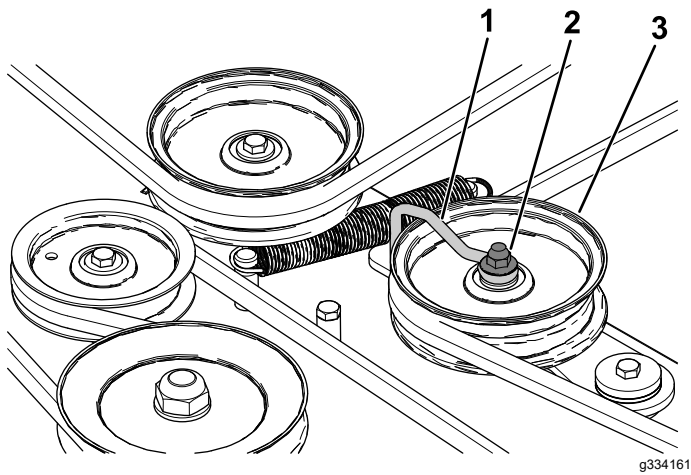

Figure 53
5. Loosen the nut securing the wire form to the idler pulley (Figure 53).
- Tighten the nut securing the wire form to the idler pulley (Figure 53).
- Note:** Position the wireform against the idler arm as shown in Figure 53.